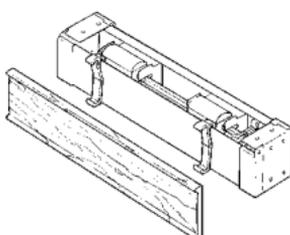

Figure E1
1. Center the valance on the headrail. (See Figure E1)